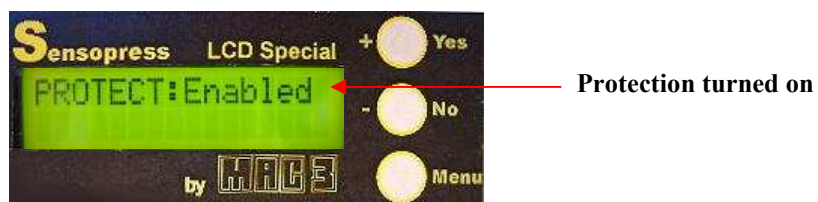

Fig. 10
□ To activate the protection it is necessary to: (fig. 10)